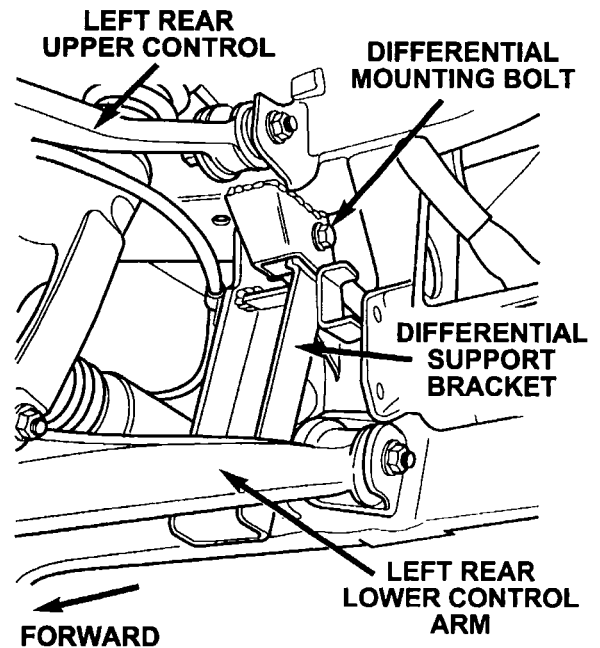

Figure 42 – View from Left Wheel Opening
16. Remove the left side differential mounting bolt and install the differential support bracket (Figure 42).
17. Install the new left side differential mounting bolt provided. Do not tighten at this time (Figure 42).